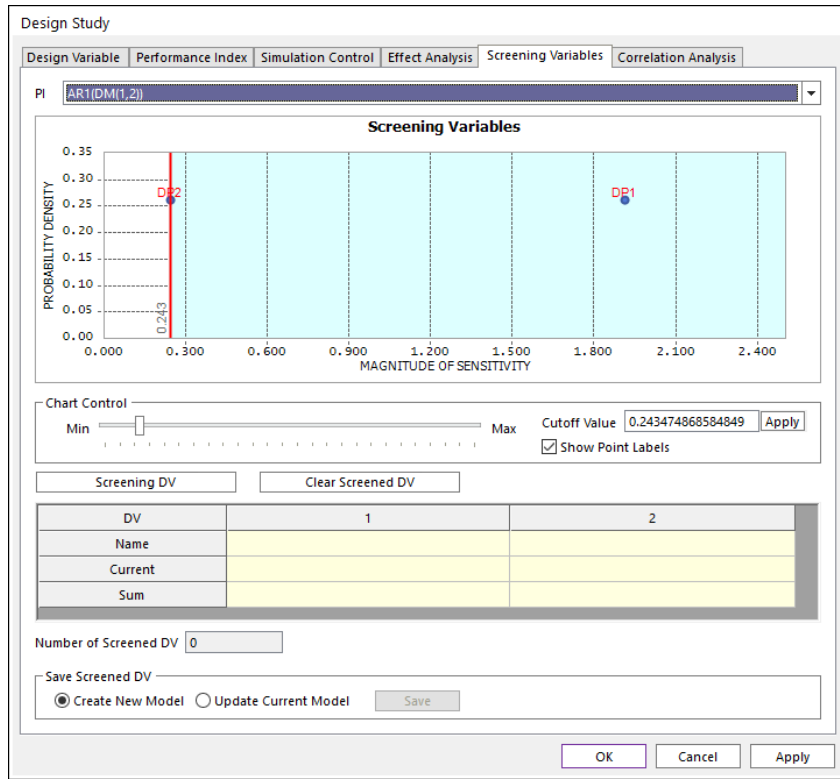

Figure A-4-11 Sub-menu for screening variables
Figure A-4-11 shows the menu for screening variables. First, you can see the scatter points. This represents the design variables. In this problem, there are only two design variables. Thus, variable screening is not required but we study only the screening variable method.
1. First, select the first performance index, **PI_1**. Figure A-4-11 shows that two design variables have severely different effectiveness. Now, you need to know which variable is effective for PI_1.